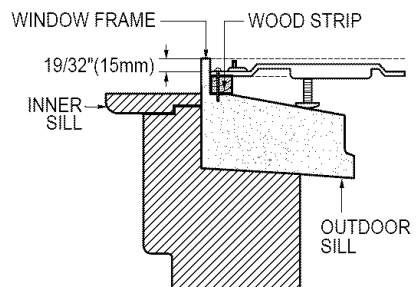

FIG. 11
- Dimensions and geometry of windows are different according to manufacturers. Check your window and refer to FIG.11 to install the support bracket firmly.